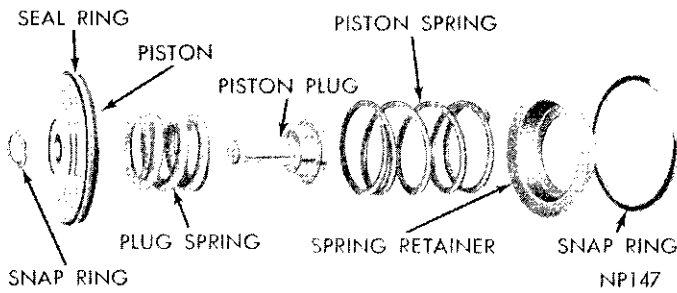
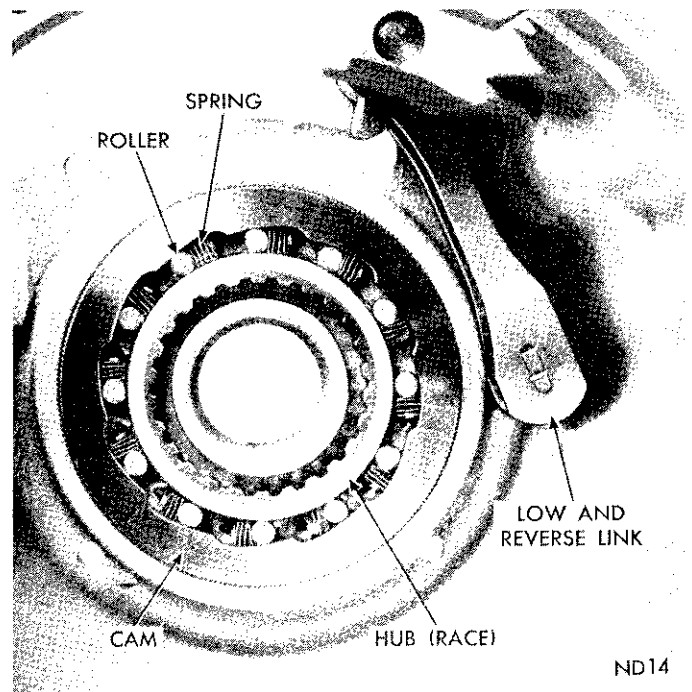
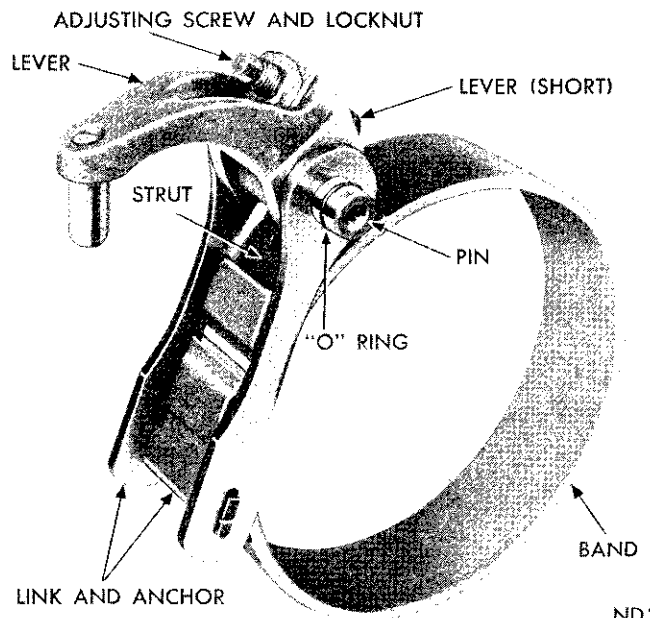

Fig. 71—Low and Reverse Servo
Fig. 72—Overrunning Clutch, Low and Reverse Band Link
Fig. 73—Low-Reverse Band and Linkage
(1) Remove snap ring from piston plug and remove plug and spring from the piston (Fig. 71).
(1) With transmission case in an upright position, insert clutch hub inside the cam. Install overrunning clutch rollers and springs exactly as shown in Figure 72.
(1) Carefully work servo piston assembly into the case with a twisting motion. Place spring, retainer and snap ring over the piston (Fig. 71).
(2) Compress low and reverse servo piston spring by using engine valve spring compressor Tool C-3422, then install snap ring.
(3) Position band in the case, install short strut, then connect long link and anchor to the band (Fig. 73). Screw in band adjuster just enough to hold strut in place. Be sure long link and anchor assembly is installed, as shown in Figure 72 to provide a running clearance for the low and reverse drum. Install the low-reverse drum.